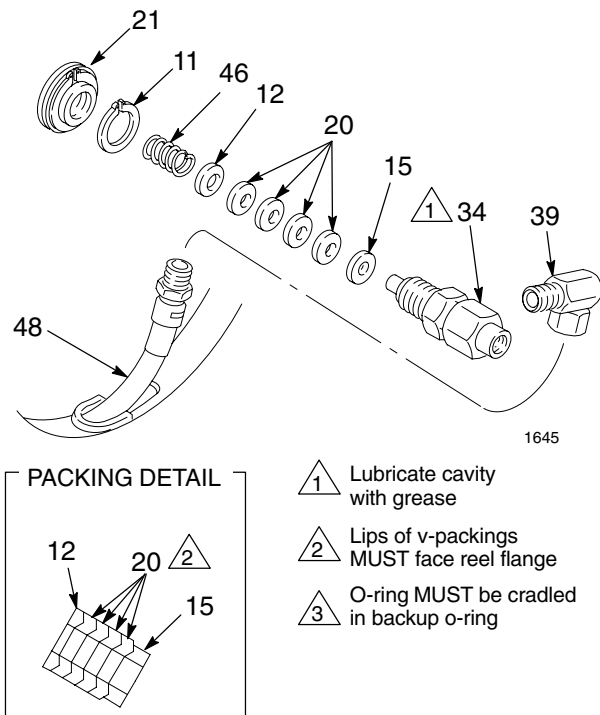
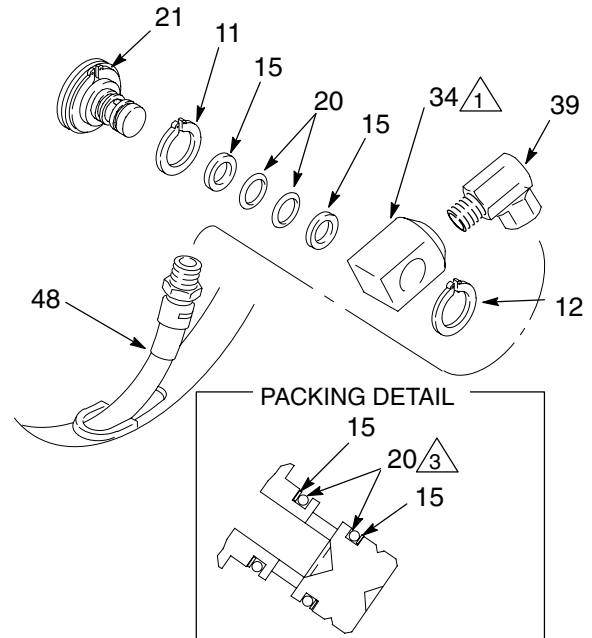

Fig. 16 High-Pressure Hose Reel
Fig. 17 Low- and Medium-Pressure Hose Reels
2. Disassemble the parts as shown in Fig. 16 or Fig. 17, depending on your hose reel model. Clean the parts, and inspect them for wear or damage.
3. Grease the new parts, and lubricate the cavity of the swivel assembly (34) with high-quality grease. Install the parts as shown in Fig. 16 or Fig. 17.